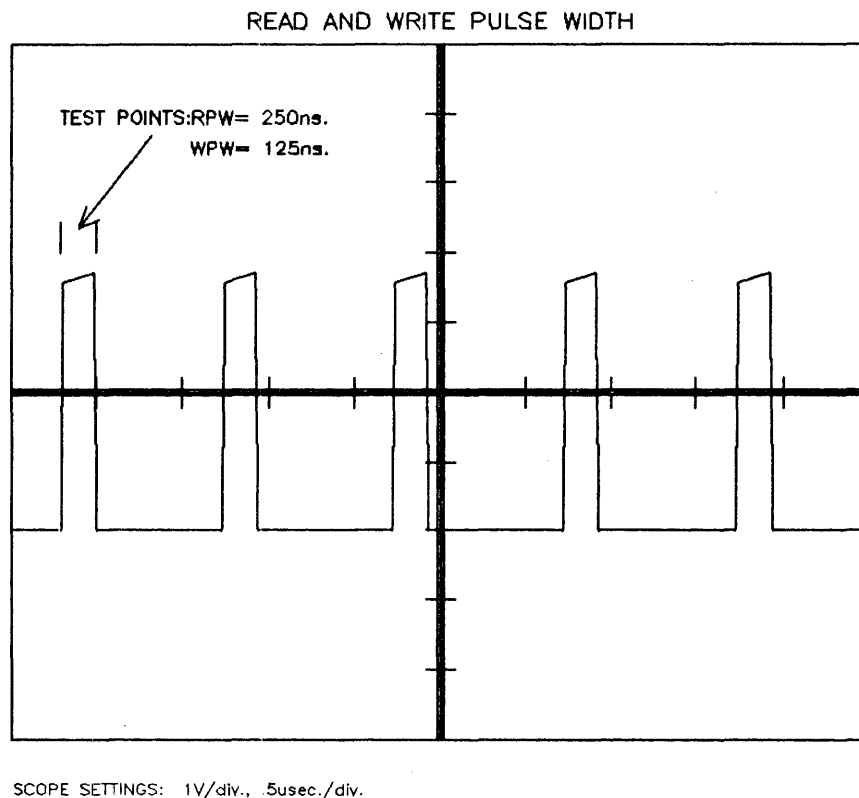

Figure 4-4
3. Observe the waveform pulse-width (see figure 4-4). The pulse width should be 250 ns.  $\pm$ 10%.